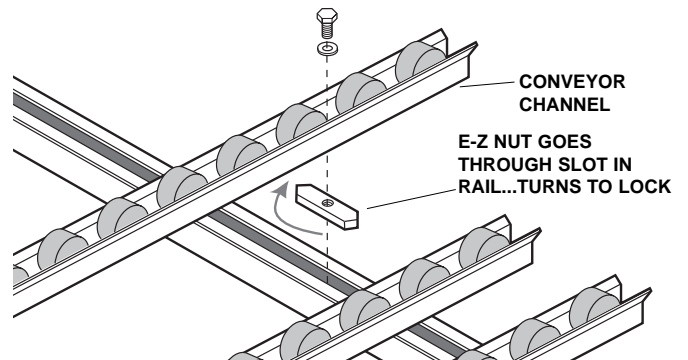

Figure 9a.
1. Bin guides are attached using an **E-Z NUT** on each end (refer to Figure 9a). Determine proper spacing for guides and insert **E-Z NUTS** through slots in rails.